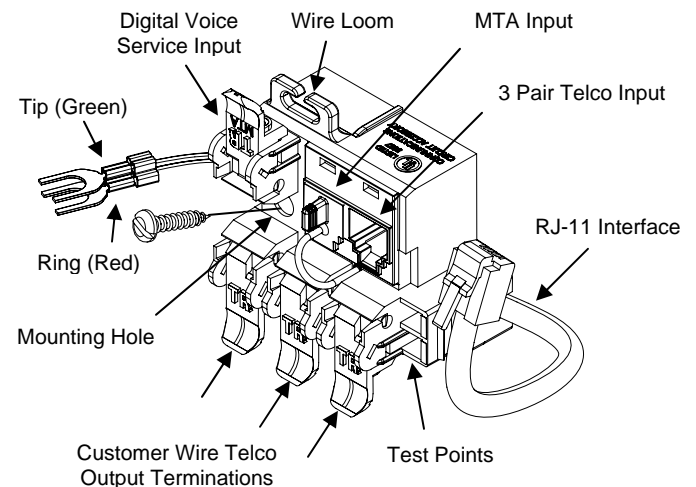

FIGURE 1
3.4 Locate a suitable flat, dry area to install the unit. Use a size #8 screw to mount the unit. Install the TII 78 Series Termination Block. See Figure 1.
- 5.1 Test for line continuity using the test points. (Figure 1).